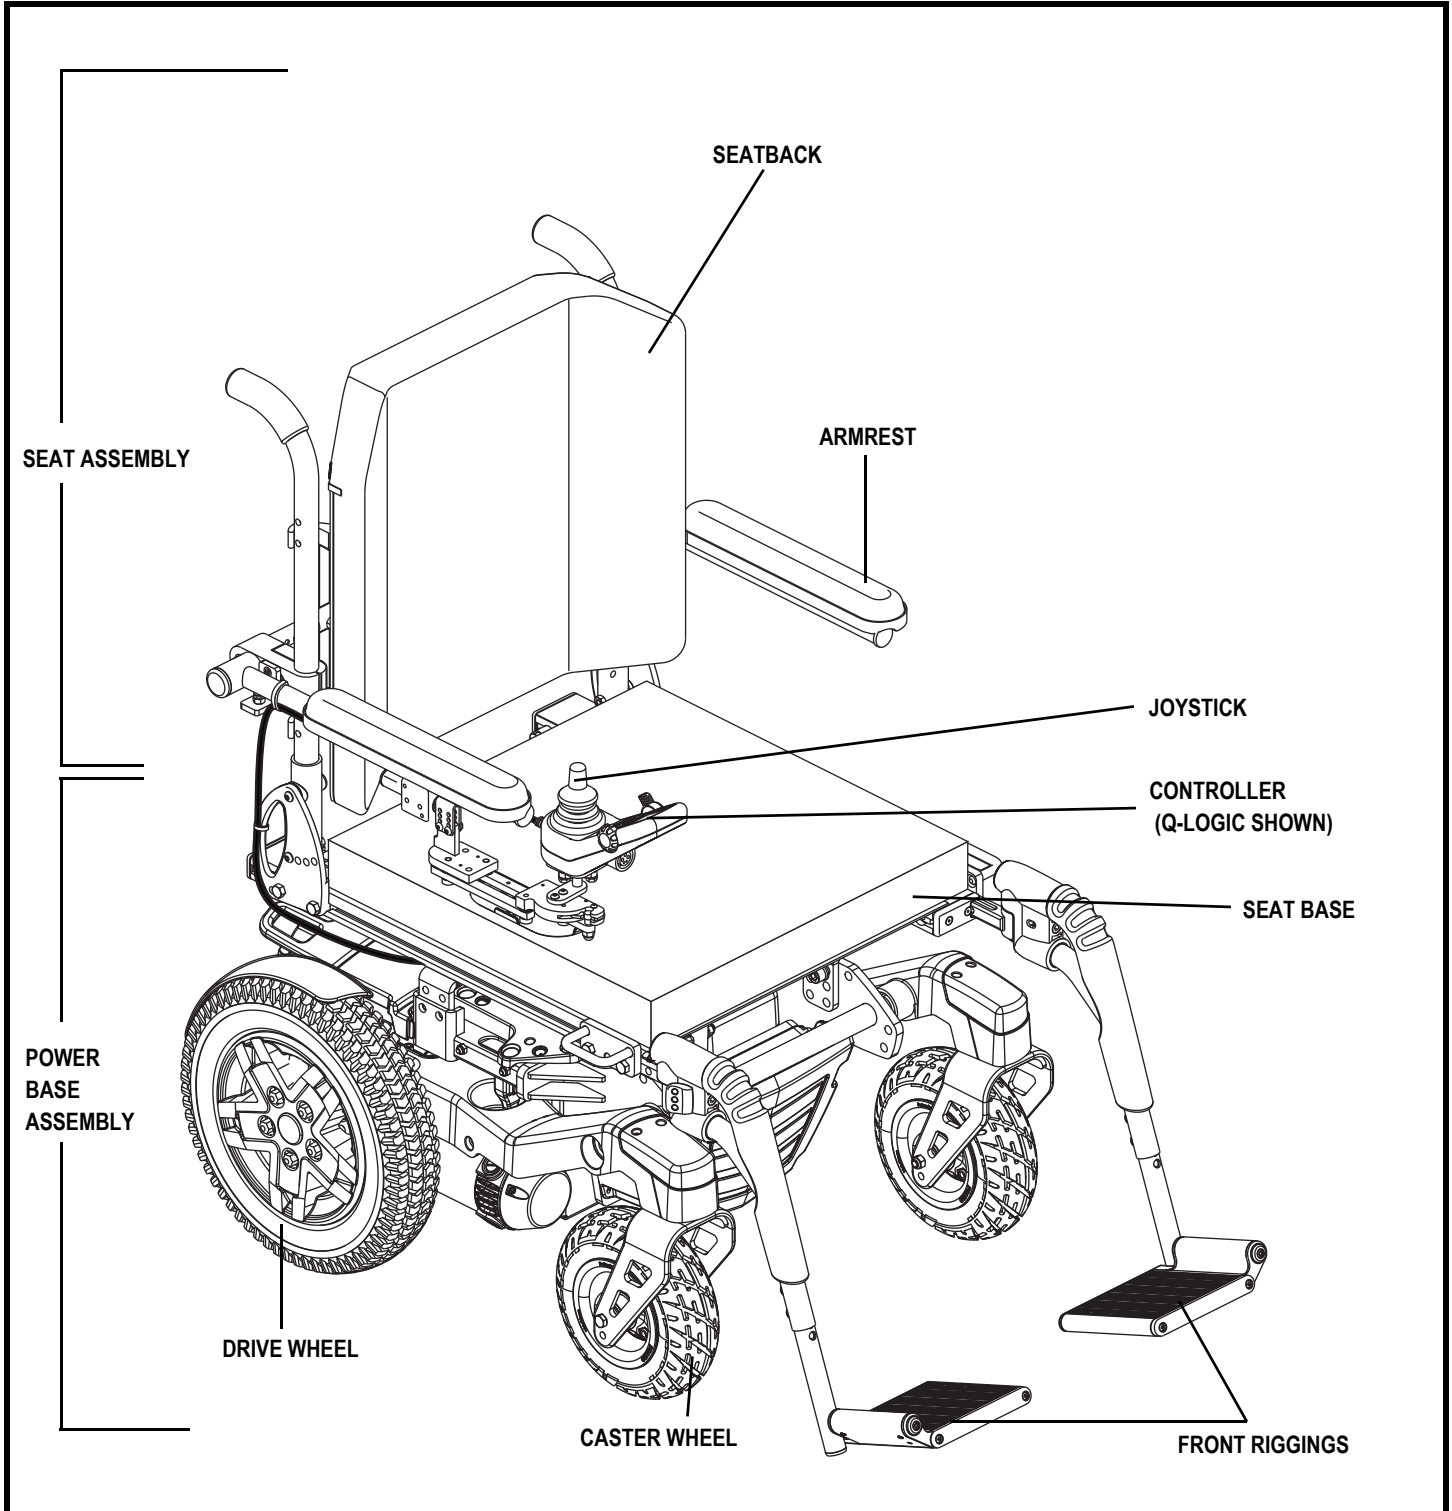

Figure 5. The Lightning
Your power chair has two main assemblies: the seat and the power base. See figures 5 and 6. Typically, the seat assembly includes the armrests, seatback, and seat base. The power base assembly includes two motor/brake assemblies, two drive wheels, two anti-tip wheels, two caster wheels, two batteries, and wiring harnesses.
**Controller Connector:** This is where the controller connects to the power base. The controller connector is located at the front of the power base. See figure 5.